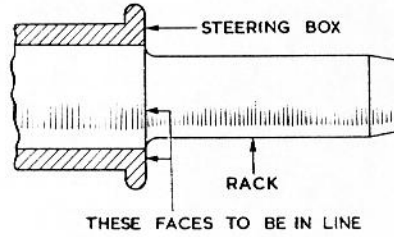

Fig. 2 Central position of rack.
6. Turn the steering wheel until the shoulder of the rack at the opposite end to the pinion location is aligned with the machined end face of the steering box, thus centralising the rack in the box, see Fig.2.
5. Adjust the eccentric bush to take up all backlash between the pinion and rack when the rack is centralised in the steering box, see Fig.2. Fit the packing ring to the bush retainer and assemble the pinion adjuster and retainer over the end of the shaft. Secure them with two $\frac{5}{16}$ in. B.S.F. set-bolts and tab-washers and tighten the bolts, evenly and diagonally to the torque loading given in the General Data.